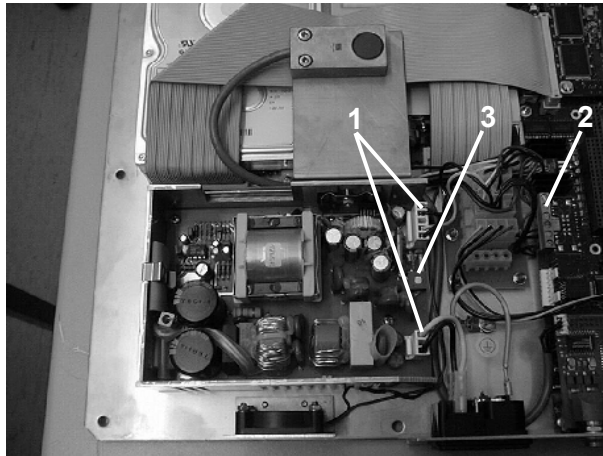

Fig. 25
- Disconnect plug-in connections ((1) Fig. 25).
- Measure the +5V supply voltage at the computer PCB terminal strip ((2) Fig. 25) and adjust the voltage to 5.05 V using potentiometer ((3) Fig. 25), if necessary.